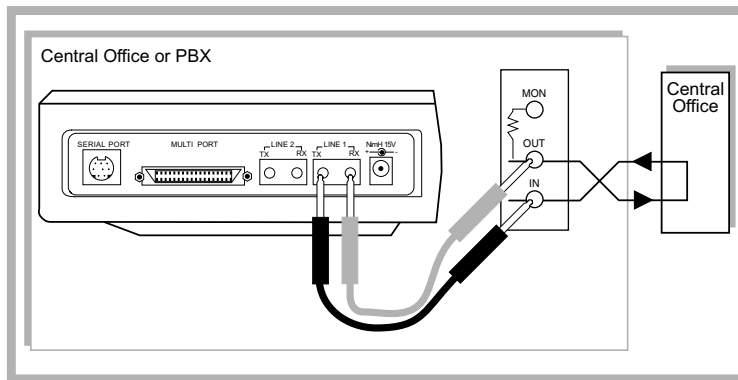
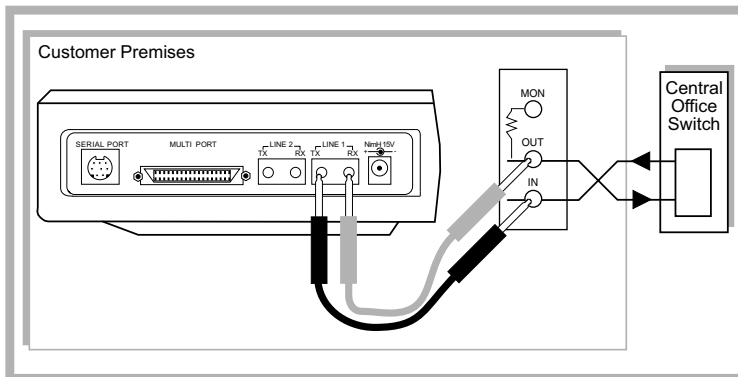

Figure 194 ISDN Call Setup - TE Mode
Figure 195 ISDN Call Setup - NT Mode
4. Connect the SunSet T10 to the circuit as shown in Figure 194, if emulating TE (terminal equipment). Use Figure 195 if emulating NT (network terminal). Press the HISTORY key on the keypad to clear the blinking LEDs.
3. Connect the SunSet T10 to the circuit as shown in Figure 194. Press the HISTORY key on the keypad to clear the blinking history lights.
4. Connect the SunSet T10 to the circuit as shown in Figure 195. Press the HISTORY key on the keypad to acknowledge the blinking LEDs.